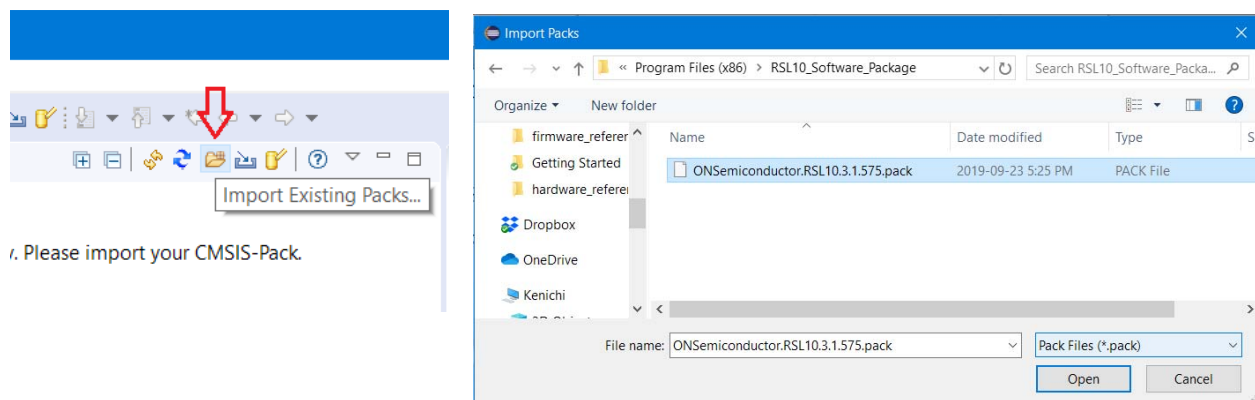

Figure 3. Installing the RSL10 CMSIS-Pack
4. Click on the Import Existing Packs icon, select your pack file *ON Semiconductor\RSL10\<version>.pack*, where *<version>* is a number such as 3.1.575, and click **Open** (see Figure 3).